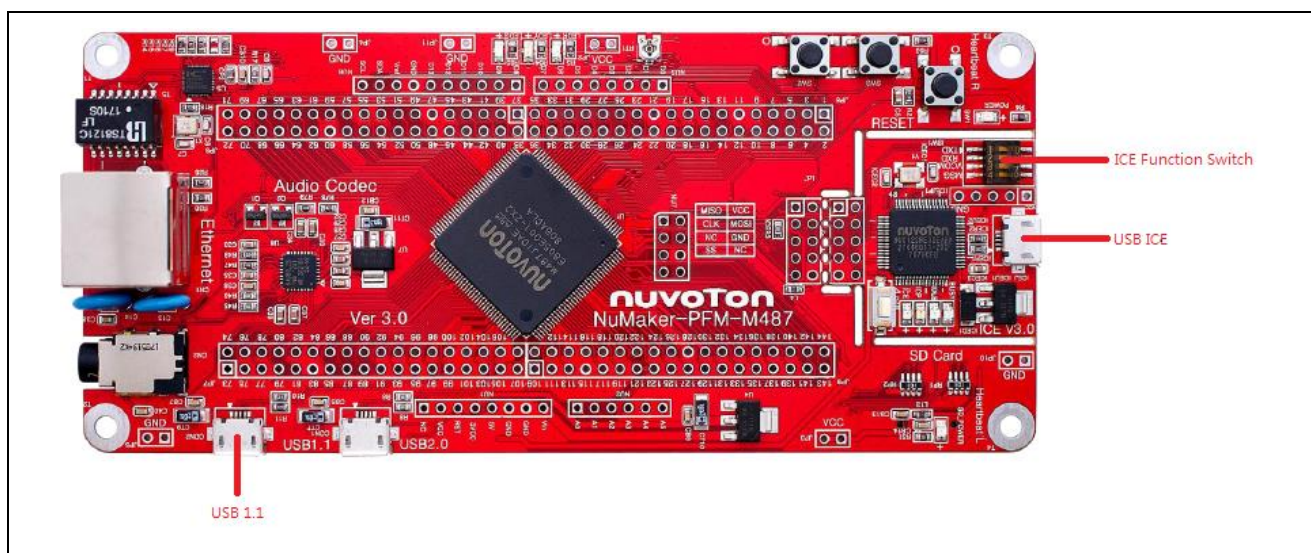

Figure 3-1 NuMaker-PFM-M487 Board
2. Connect USB ICE to PC (Figure 3-1).